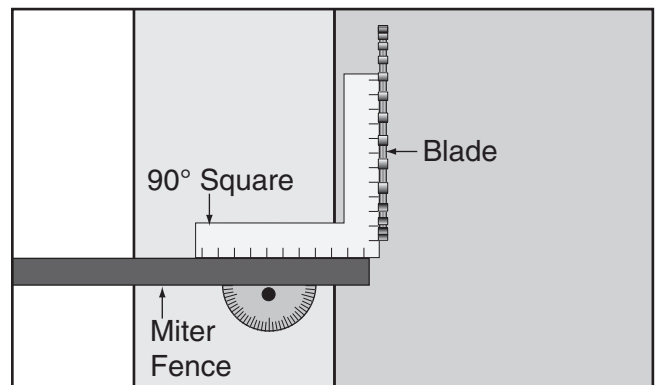

Figure 121. Using a square to adjust the miter fence 90° to the blade.
4. Place a square against the blade body (do not touch the blade teeth), and position the fence so it is evenly touching the length of the square, as illustrated in **Figure 121**.